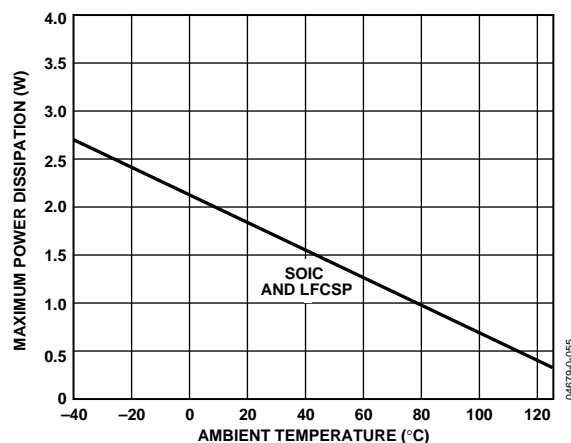

Figure 3. Maximum Power Dissipation vs. Temperature for a 4-Layer Board
Power Dissipation	See Figure 3
Figure 3 shows the maximum safe power dissipation in the package versus the ambient temperature for the exposed paddle (EP) SOIC-8 ($\theta_{JA} = 70^{\circ}\text{C}/\text{W}$) package and LFCSP ($\theta_{JA} = 70^{\circ}\text{C}/\text{W}$) on a JEDEC standard 4-layer board. θ_{JA} values are approximations.